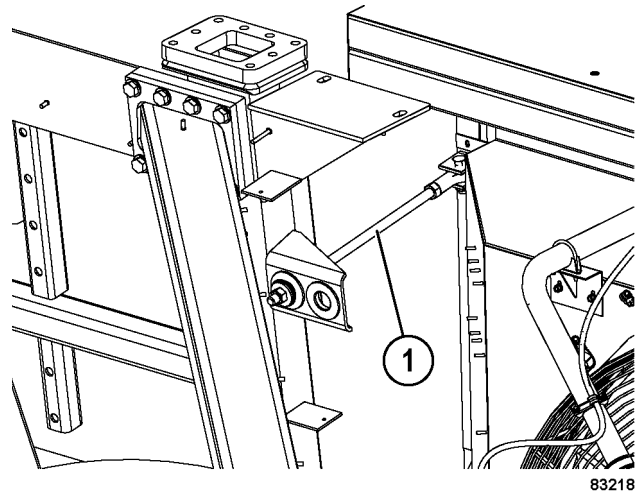

FIGURE 2-7. RADIATOR UPPER SUPPORT ROD
4. Install rubber mounts (18), large washers (17), flat washers (16), lockwashers (15) and capscrews (14). Tighten the lower mounting capscrews to **800 ± 80 N·m (590 ± 59 ft lb)**.
6. Install hoist circuit filter assemblies (11) and steering circuit filter assembly (12) on the tank.
19. Remove radiator upper support rod (1, Figure 2-7) at each side of radiator.